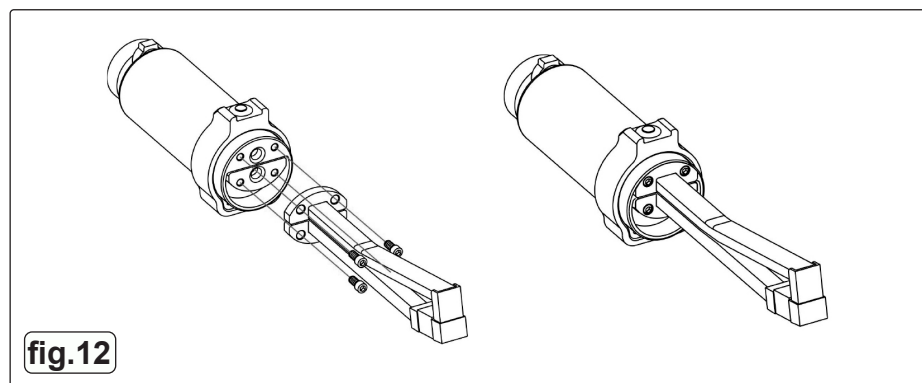

fig.12
4. Install the New Inductor Unit fig.12